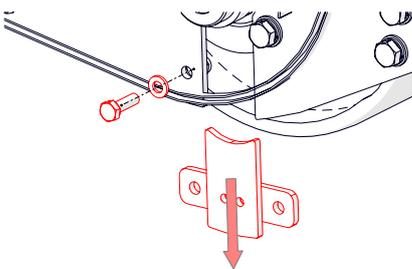

Fig.20I - Remove the LH cover plate.
12. Remove the hex screw below the LH bearing [10 mm], attaching the metal cover (Fig.20I).